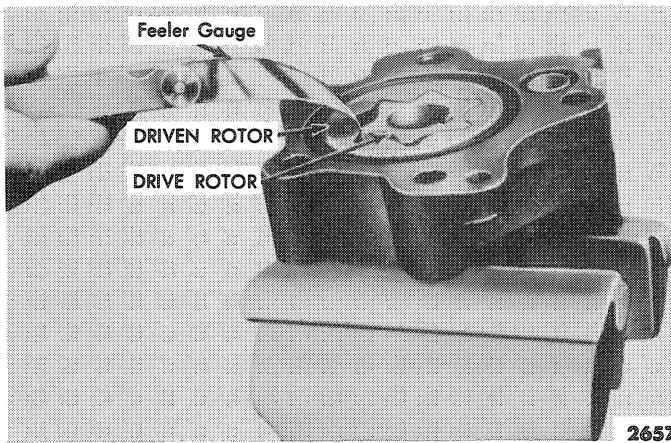

Figure 11—Checking Clearance Between Rotors
- b. Install the drive rotor and the driven rotor. Check the clearance between the rotors, at all points, with a feeler gauge as shown in Figure 11. If the clearance exceeds 0.006 inch, replace the pump body and rotor assembly.